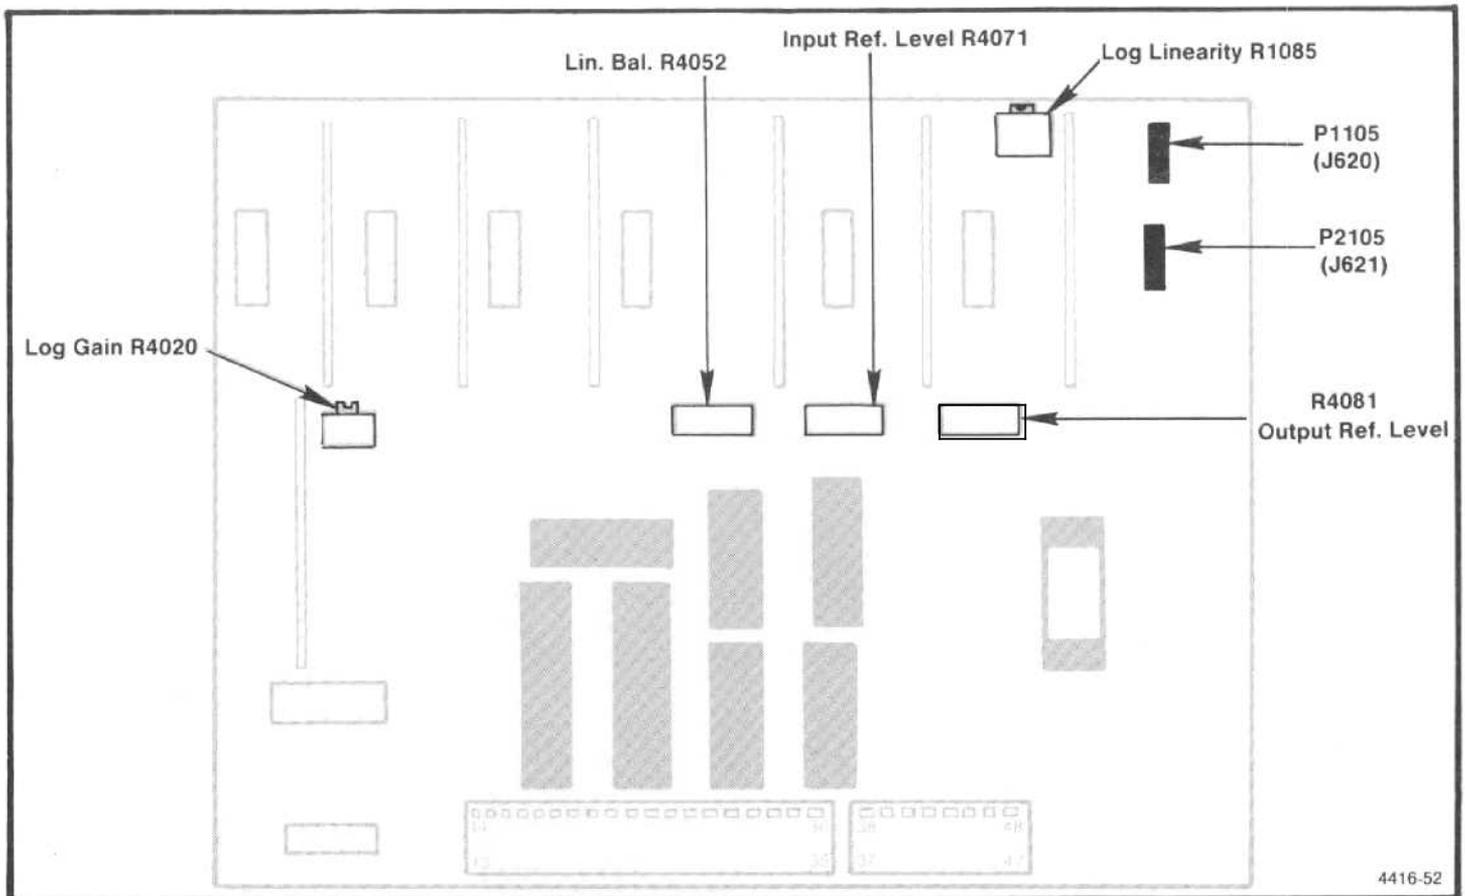
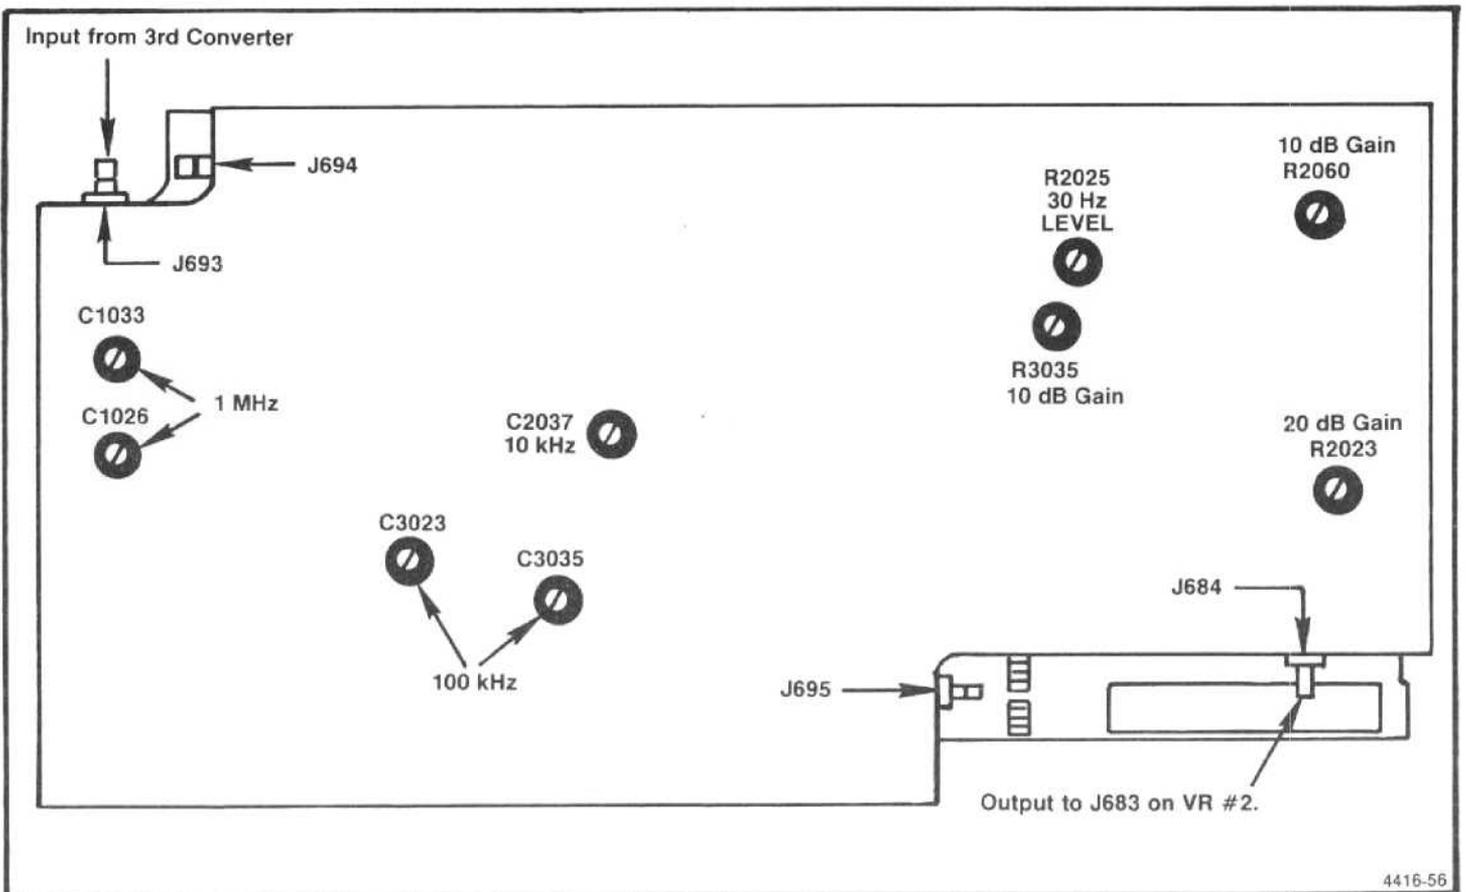

Figure 5-17. Location of test points and adjustments for calibrating the Log and Video Amplifier.
Figure 5-21. Adjustments on the VR#1 module.
signal from the signal generator through 10 dB and 1 dB step attenuators, to the input of the Log Amplifier at J621 (Figure 5-17). Set the step attenuators for 50 dB of attenuation.
g. Increase the attenuation through the step attenuators in 10 dB steps to 50 dB and adjust the Log Gain R4020 (Figure 5-17) so each 10 dB of change produces a division of change on the display.
i. Alternately switch the Vertical Display between 10 dB/DIV and 2 dB/DIV while adjusting Input Ref Lvl R4071 (Figure 5-17) for minimum amplitude change between the two displays.
l. Adjust Output Ref Lvl R4081 (Figure 5-17) for a full screen (eight divisions) display.
m. Switch to the 10 dB/DIV mode and set the step attenuators for 40 dB of attenuation. Adjust Log Linearity R1085 (Figure 5-17) so the display is mid-screen.
s. Press LIN and adjust Lin Bal R4052 (Figure 5-17) for a full screen display. Amplitude of LIN, 2 dB/DIV, and 10 dB/DIV display should now be the same.
i. Disconnect the 10 MHz third converter IF signal from the input to VR#2 input and reconnect it to J693 (the input of VR#1, see Figure 5-21). Connect the output of VR#1 (P683) through a Sealectro male-to-male adapter and coaxial cable to the input of the Log Amplifier at J621 (Figures 5-17 and 5-18).
l. Adjust the 10 kHz filter with C2037 (Figure 5-21) for best filter response shape around the 1 kHz reference.
n. Now, set the FREQ SPAN/DIV to 50 kHz, RESOLUTION BANDWIDTH to 100 kHz, and adjust the 100 kHz filter with C3023 and C3035 (Figure 5-21) for filter shape and centering about the 10 kHz filter reference.
o. Set the RESOLUTION BANDWIDTH to 1 MHz, FREQ SPAN/DIV to 500 kHz, and adjust the 1 MHz filter response and centering with C1033 and C1026 in the VR Input board (Figure 5-21). Deactivate SAVE A.
- e. Disconnect P693 from the input to VR#1 module (Figure 5-21) and activate MIN NOISE. Apply a 10 MHz, -25 dBm signal, from the signal generator, through a bnc-to-Seaelectro adapter to J693. Adjust the generator frequency to peak the signal amplitude. (Signal amplitude should be between 3.5 and 6.5 divisions. If signal amplitude is not within these limits it indicates a gain problem in the VR.)
- h. Switch MIN NOISE off, decrease the generator output to -35 dBm, leave the REF LEVEL at -20 dBm, and adjust the 10 dB Gain, R3035, on the 10 dB Gain board of VR#1 (Figure 5-21) so the signal amplitude is 7 divisions.
- i. Change the generator output to -45 dBm, the REF LEVEL to -40 dBm, and adjust 20 dB Gain R2023 on the 20 dB Gain Step board (Figure 5-21) for a 7 division signal amplitude.
- j. Change the generator output to -65 dBm, the REF LEVEL to -60 dBm, and adjust the 10 dB Gain, R2060, on the 20 dB Gain Step board (Figure 5-21) for a 7 division signal amplitude.